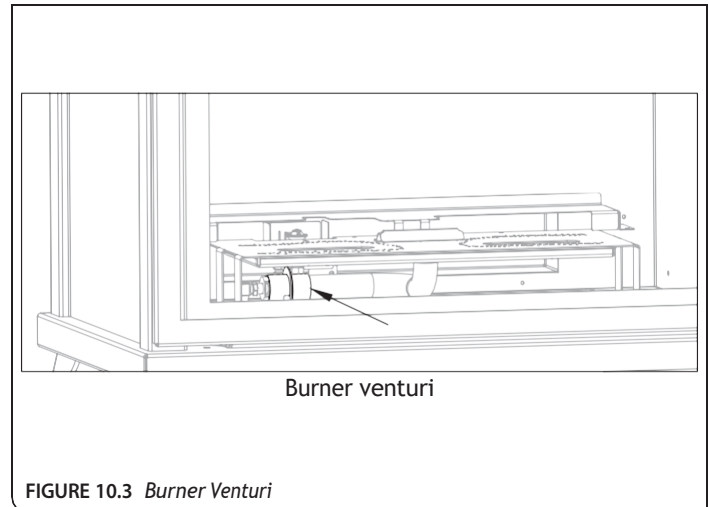
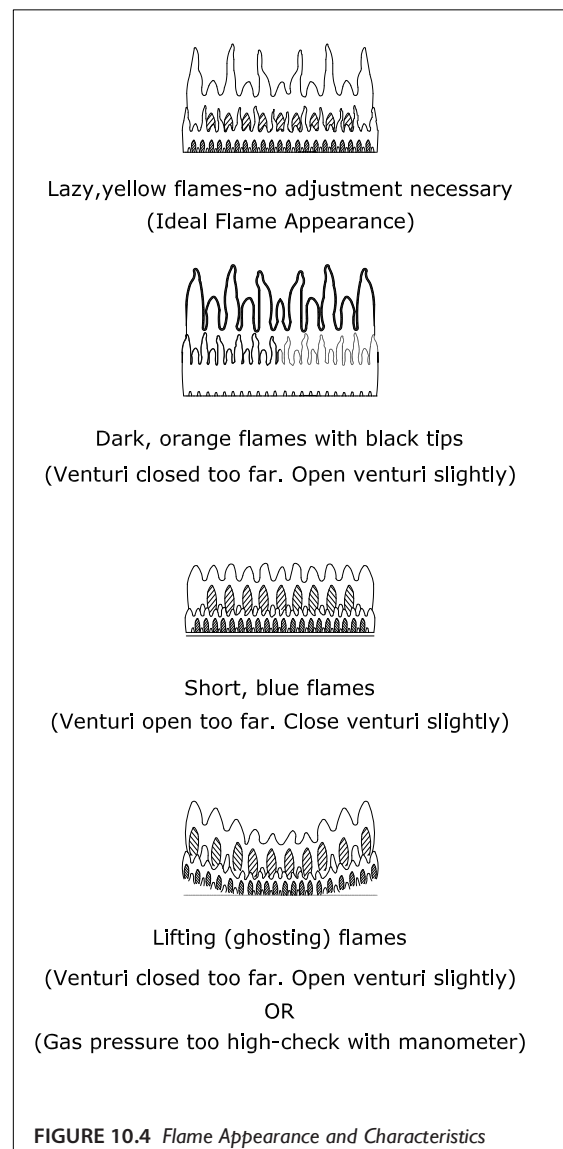

FIGURE 10.3 Burner Venturi
FIGURE 10.4 Flame Appearance and Characteristics
3. Loosen the wing nut securing the lever and adjust the burner venturi (FIGURE 10.3) as necessary. See flame adjustment guidelines in FIGURE 10.4. Re-tighten wing nut when finished.